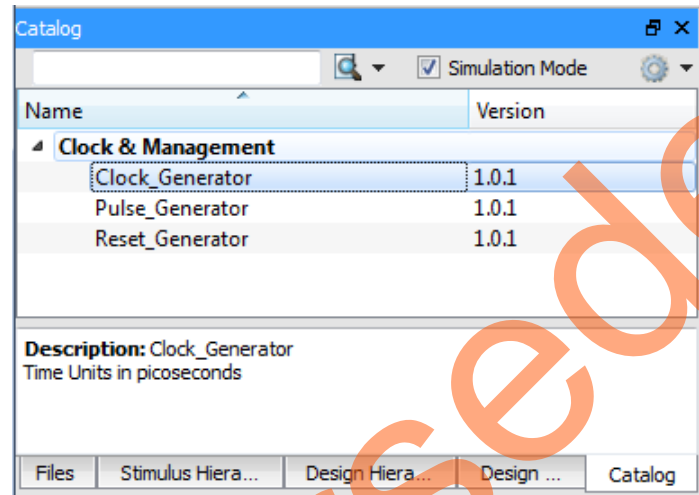

Figure 15. Simulation Cores in Libero IP Catalog
1. Enable the SmartDesign simulation cores by selecting **Simulation Mode** check box in the Libero SoC IP catalog, as shown in Figure 15. The IP catalog displays three simulation cores to drive the device under test (DUT):